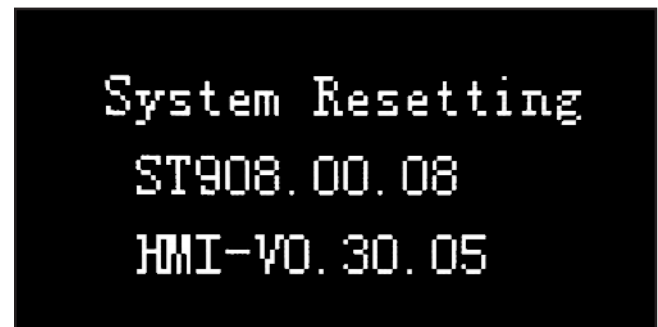

Figure 27. Status screen display during start-up.
- Screen display will show system status information (see **Figure 27**), and after one audible beep, laser head assembly will home to upper right corner of table before moving to origin (or position of last cut).